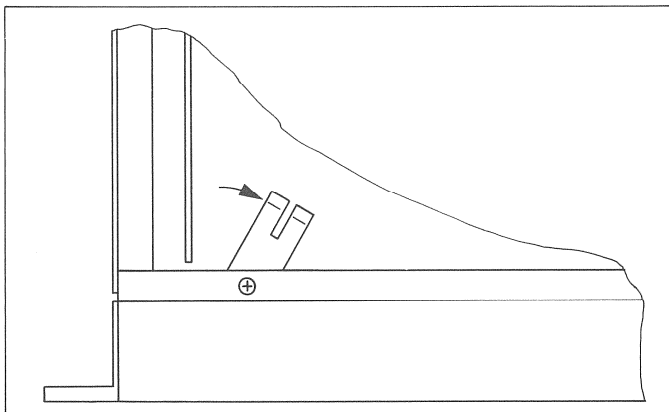

Fig. 4.14
- Unfasten the left-hand tensioning spring of the housing cover by means of a screwdriver for recessed-head screws and turn it somewhat to the right to prevent short circuit with the contacts of the SERVO 2 PCB (see Fig. 4.14).